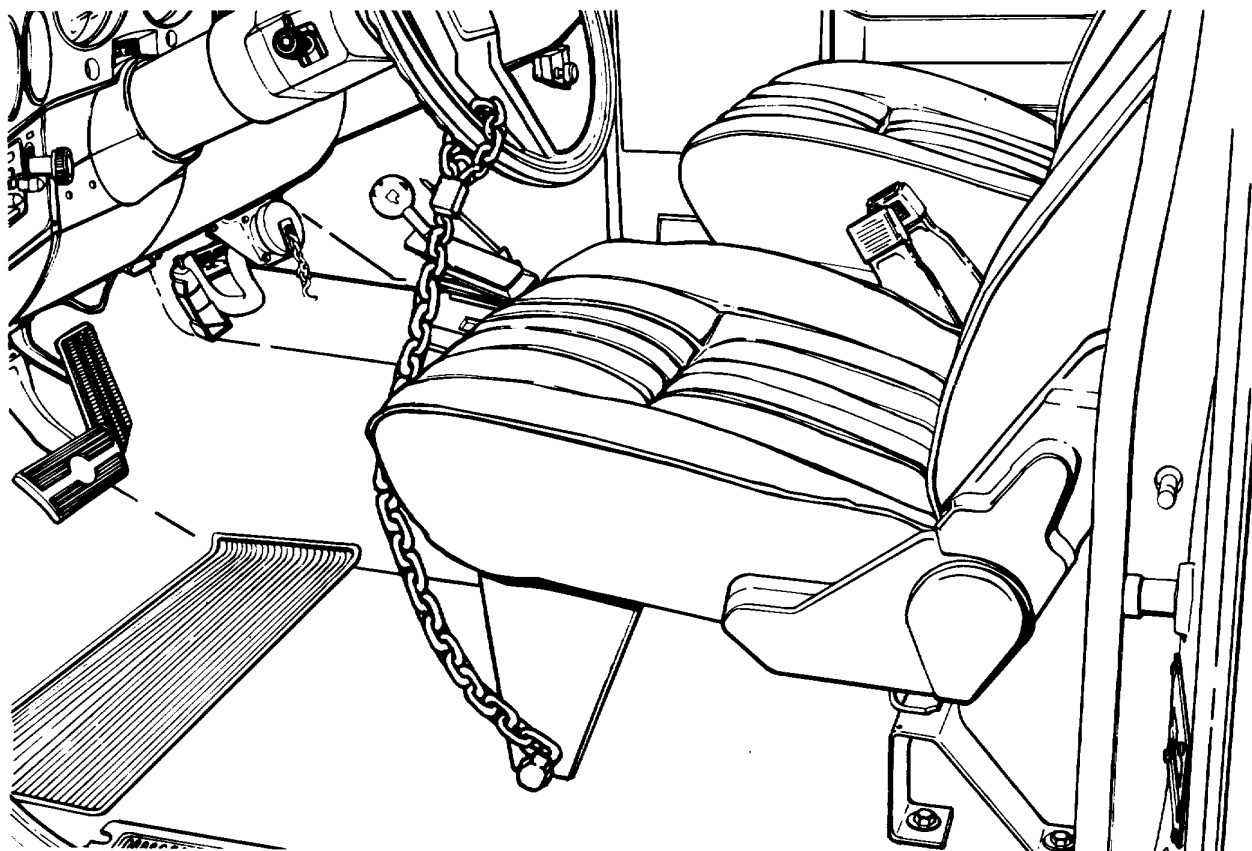

Figure 5. M1009 Utility Chain Position
a. Drill a 27/64 inch hole in driver's seat forward bracket. Locate hole 1 1/2 inch above cab floor and 1 inch from front edge of bracket. Insert screw in hole with threaded area facing inboard; attach end of chain with washer and nut, then tighten. After tightening, the nut should be staked to prevent removal (Fig. 5). Position chain around steering wheel spokes and secure with padlock.